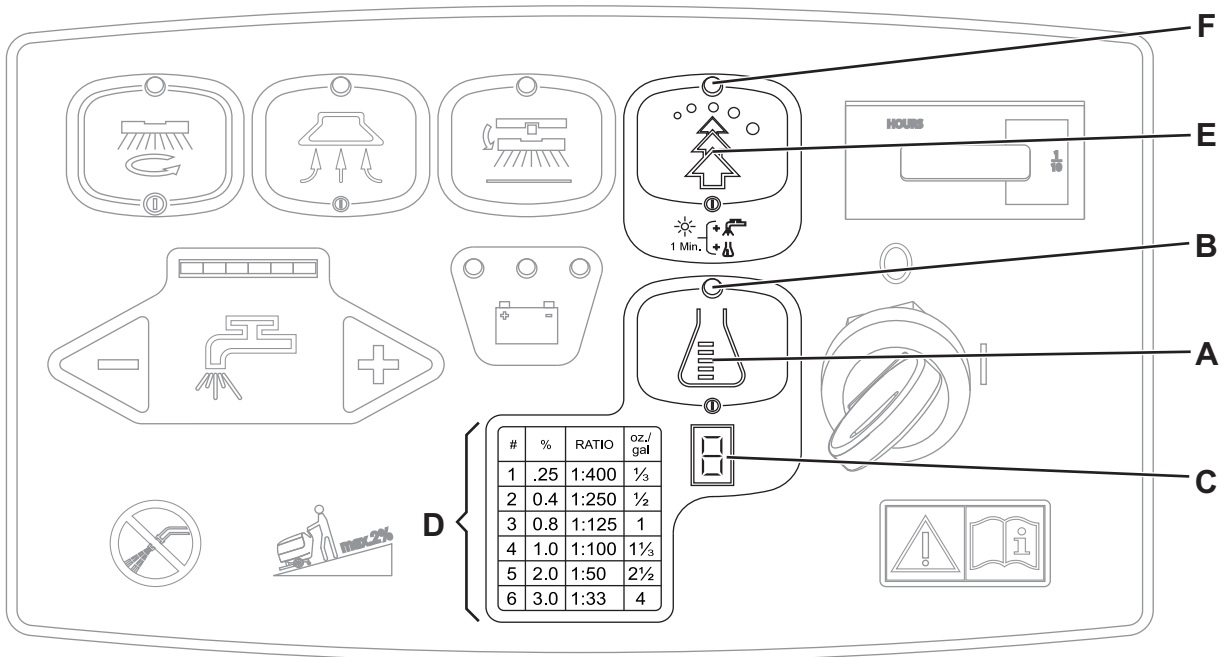

Figure 4
The system used to mix the detergent with the washing water can be activated by pressing the detergent flow control switch (A, Fig. 4): when the led (B) is on, the detergent is added to the washing water.
Press the EcoFlex™ switch (E, Fig. 4) whenever a stronger washing power is required. When you press the switch (E) (the led indicator (F) is flashing) the solution flow increases and the detergent concentration in the corresponding solution rises to the set level (moreover, if the detergent mixing function is not activated, it is automatically activated). The original settings can be restored by pressing the switch (E) once again (the led indicator (F) is ON).
In order to temporarily disable the system, press and hold the EcoFlex™ switch (E, Fig. 4) for 2 seconds. After this procedure, (led (F) off), the detergent concentration level is the one which has been set. In order to re-enable the system, press the EcoFlex™ switch (E) again.